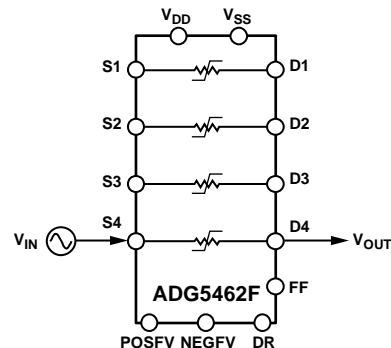

Figure 1.
When no power supplies are present, the channel remains in the off condition, and the channel inputs are high impedance. Under normal operating conditions, if the analog input signal levels on any Sx pin exceed positive fault voltage (POSFV) or negative fault voltage (NEGFV) by a threshold voltage (VT), the channel turns off and that Sx pin becomes high impedance. If the DR pin is driven low, the drain pin (Dx) is pulled to the secondary supply voltage that was exceeded. The output profile for each DR voltage level is shown in Figure 1. Input signal levels up to  $-55$  V or  $+55$  V relative to ground are blocked in both the powered and unpowered conditions.